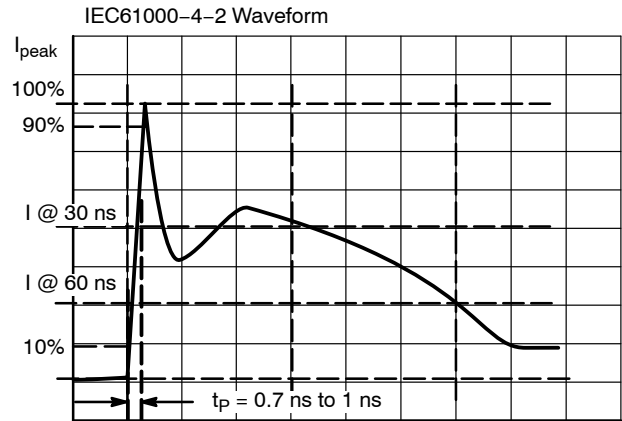

Figure 3. IEC61000-4-2 Spec
4. Typical waveform. For test procedure see Figures 3 and 4 and Application Note AND8307/D.